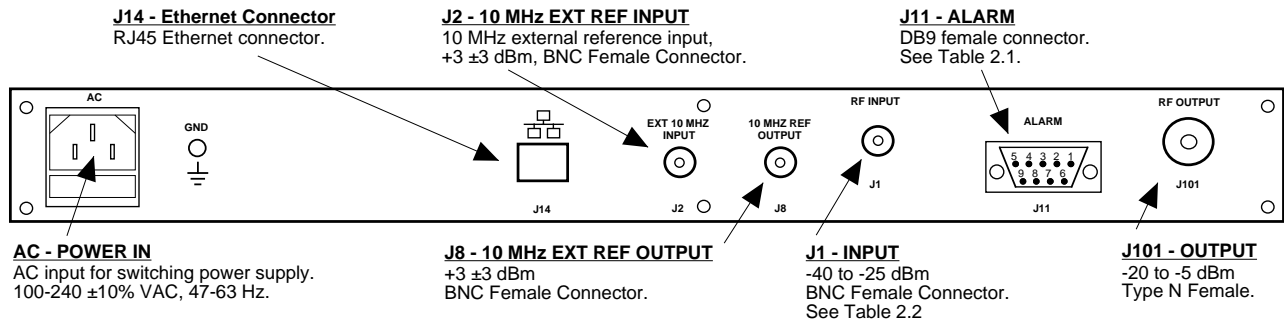

FIGURE 2.1 3115-145-1600 Rear Panel I/O's
Figure 2.1 shows the input and output connectors on the rear panel.
1. Connect a -40 dBm to -25 dBm signal to L-Band IN, J1 (Figure 2.1).